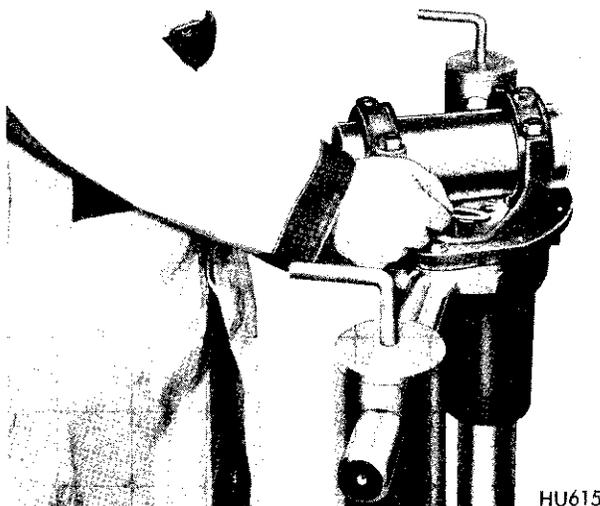

Fig. 29—Determining Spacer Thickness
(7) Select a rear pinion bearing mounting shim which will fit between cross arbor and gauge block. This fit must be snug but not too tight (similar to the pull of a feeler gauge. (Fig. 29). This shim is then used in determining the correct thickness shim for installation.
(8) To select a shim for installation, read the marking on end of pinion head (-0 , -1 , -2 , $+1$, $+2$, etc). When marking is $-$ (minus) add that amount to the thickness of shim selected in step (7). When the marking is $+$ (plus), subtract that amount. Example: With a shim .036 inch thick and a pinion marked -2 , install a shim .038 inch thick ($.036 + .002 = .038$). Example: With a shim .036 inch thick and a pinion marked $+2$, install a washer .034 inch thick, ($.036 - .002 = .034$) or when a shim .036 inch thick is too loose and .038 inch too thick, use .036 inch shim. Treat other pinion markings in a similar manner. Shims are available in one thousands of an inch increments.
(9) Remove differential bearing caps and remove tool arbor from carrier.